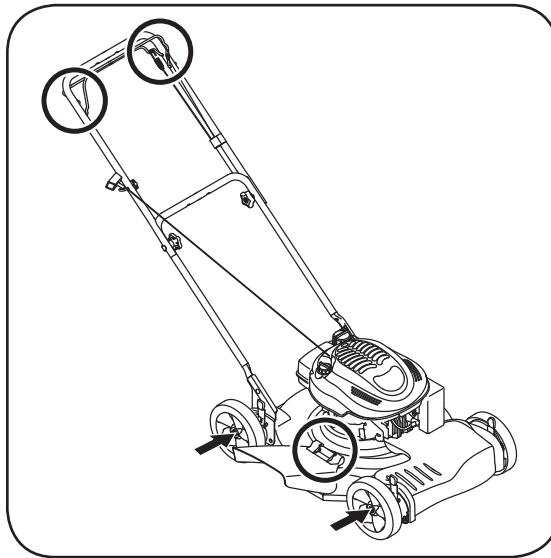

Figure 5-1: Areas to lubricate on mower.
- Lubricate pivot points on the blade control and drive control at least once a season with light oil. These controls must operate freely in both directions, Figure 5-1.
- Lubricate the wheels at least once a season with light oil (or motor oil). If wheels are removed for any reason, lubricate surface of the pivot arm and inner surface of the wheel with light oil, Figure 5-1.
- Lubricate the torsion spring and pivot point on each end of the side discharge chute periodically with light oil to prevent rust, Figure 5-1.